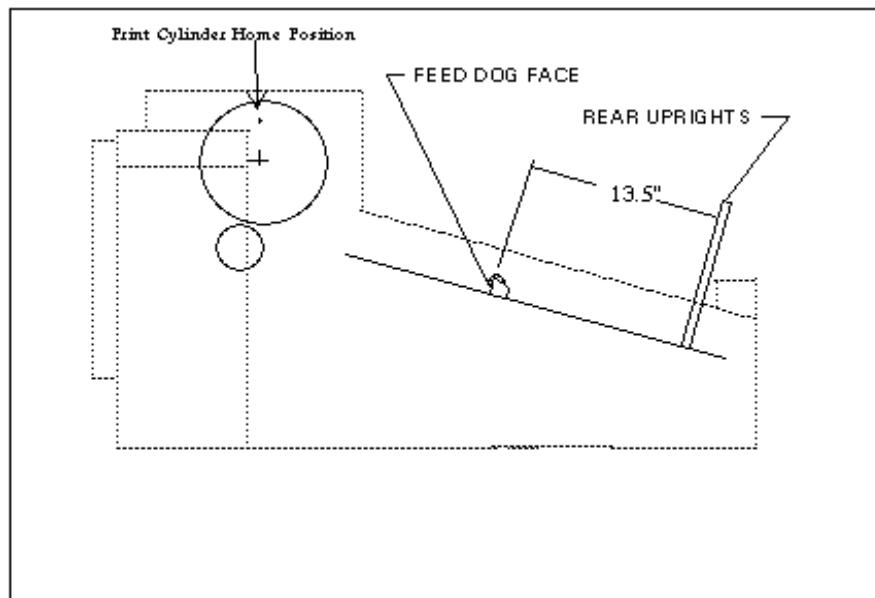
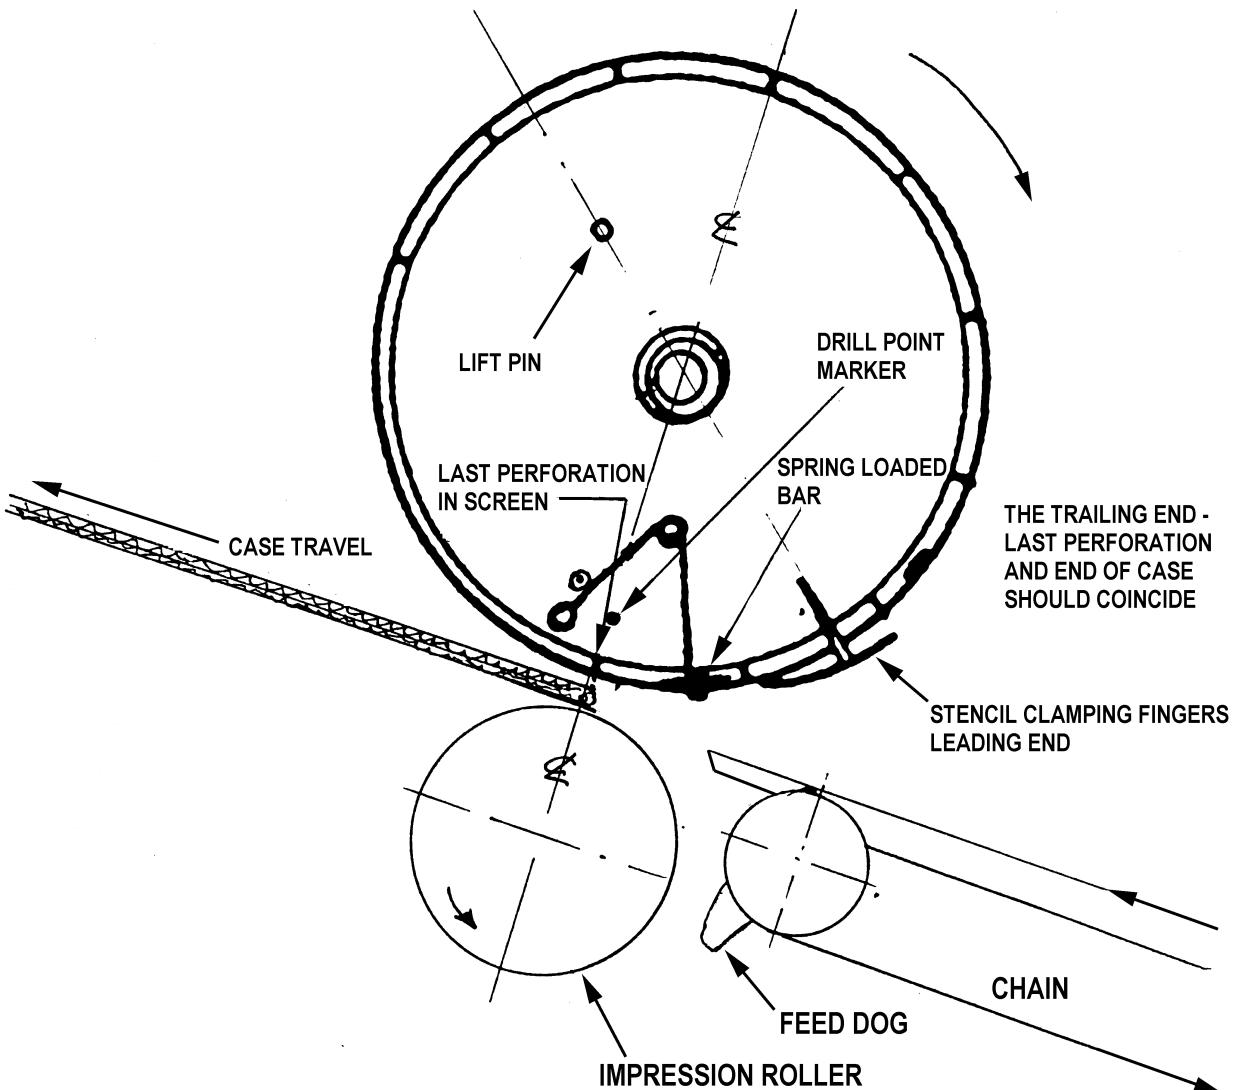

Figure 1
Figure 2
1. In Fig. 1, with print cylinder in "Home" position, lift pin at 12 o'clock, the distance from the front of the flight to the front of the uprights in the feeder magazine should be 13.5". This basic setting should result in the condition shown in Fig. 2. The print cylinder has a drill point mark on the operator side end plate, indicating the end of the perforations at the trailing end of the screen. This is also the end of the 32" printable area. The printer is set up in such a manner that a case being fed under the print cylinder will have the trailing edge of the case and the drill point mark coincide. This setup is necessary both for print registration and so that the case will force excess ink back into the print cylinder at all points where the screen is perforated.
- j. Run a check to test the case location as shown in Fig.2. If still not correct, make further adjustments until the proper operating conditions obtain. If at any point in the machine's life a belt or chain must be replaced, this procedure will be necessary for setting the relationship between the flights and the print cylinder.